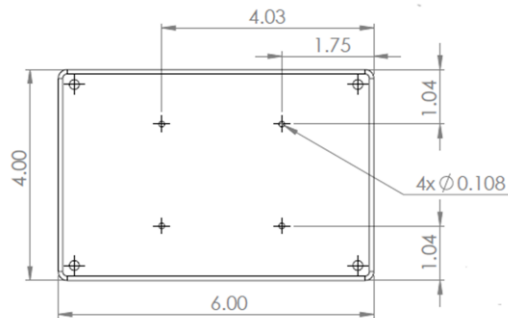

Fig. 2: Locations of RaspPi Screws
- 3) Drill 4 holes for Size 4 Screws in the bottom of the box. These will serve as mounts for the Raspberry Pi. The hole locations are found in Fig. 2.